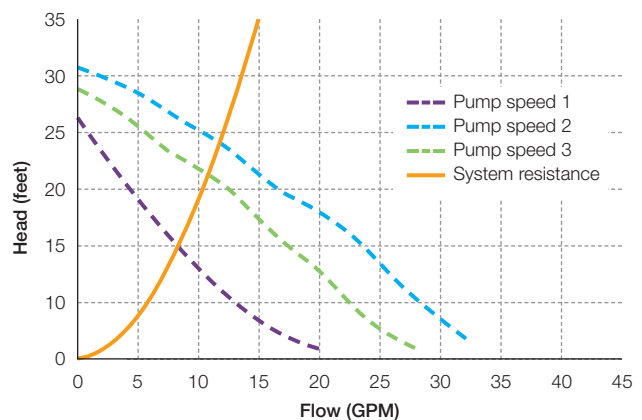

Figure 26: Example system and pump curves.
**The pump's flow will decrease as the pressure losses in a system increase. Figure 26 shows the pump curves for a three speed solar pump plotted against the characteristic curve for a solar thermal system. Where the two lines cross shows how much flow the system will receive at each of the three pump speeds for the pump. The low speed will flow about 7GPM through the system, the middle 11GPM through the system and the high 12GPM. Information on choosing the correct flow rate for the system can be found under Collector Layout and its Effect on the System, page 74.**